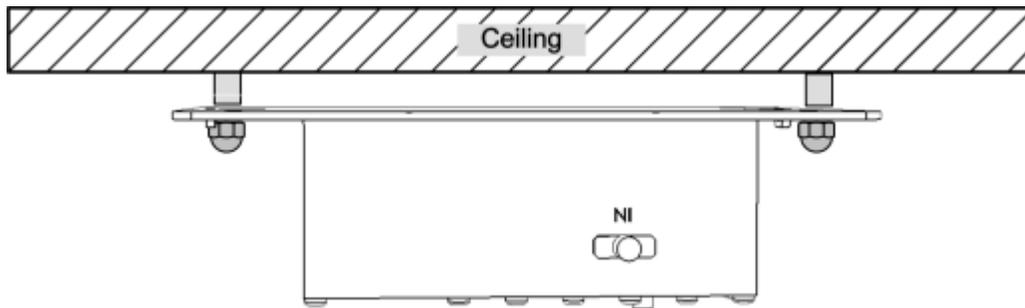

Figure 5-74. Illustration of Cavity Filter Mounted on Ceiling
3. Mount the Cavity Filter as shown in Figure 5-74.